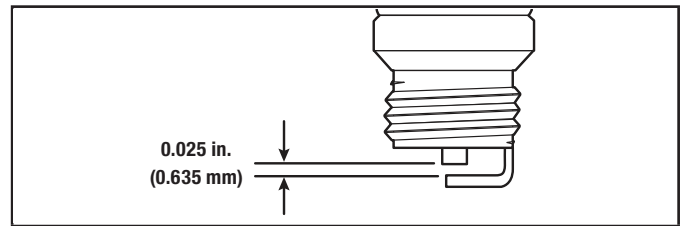

Figure 45
7. Use a feeler gauge to set the air gap at 0.025 in. (0.635 mm) (Fig. 45).